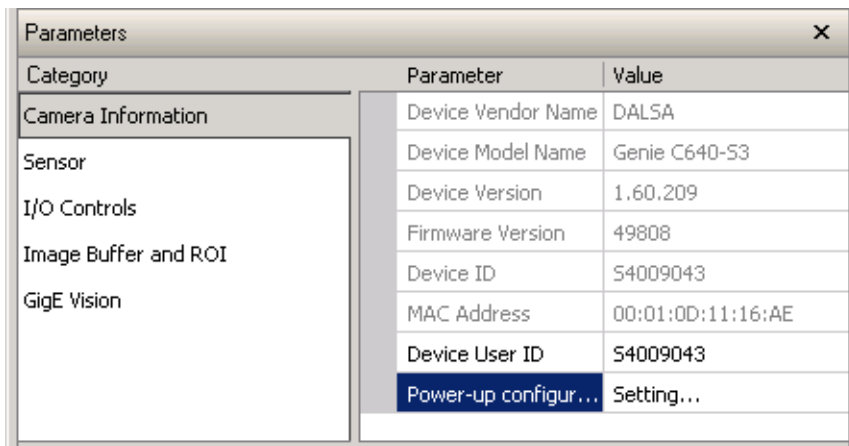

Figure 40. Camera Information Tab
1. Click on the "Camera Information" tab (Figure 40).